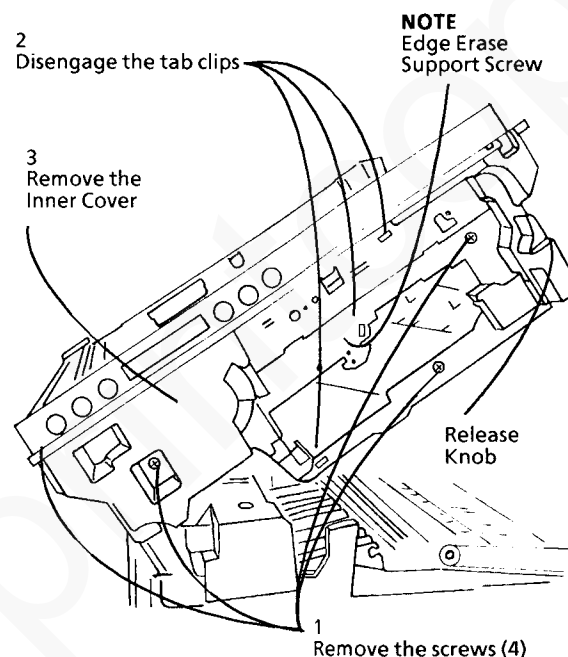

Figure 1. Removing the Inner Cover
5. Remove the Inner Cover (Figure 1).